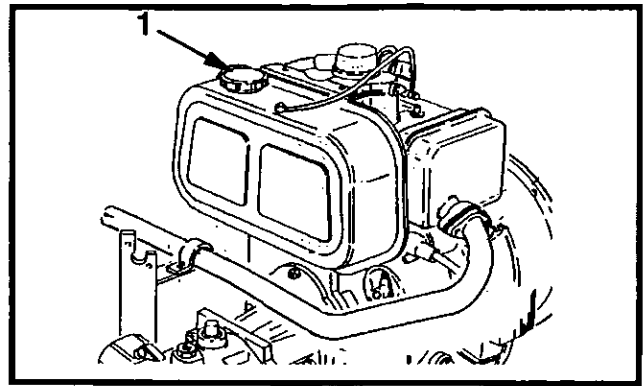

Figure 5-12 Fuel Tank Filler
1. Check fuel level at filler cap on fuel tank (1, Figure 5-12).
3. If required, add fuel through the filler (1, Figure 5-12).